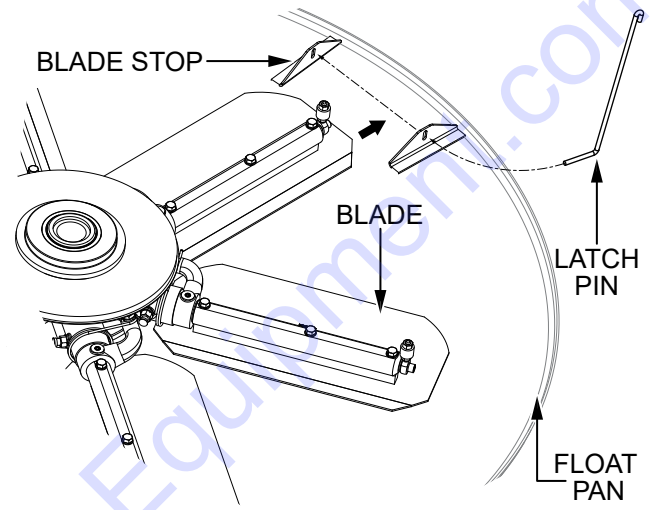

Figure 56. Float Pan Installation (Latch Pins)
1. Lift the trowel just enough to slide the float pan under the blades. Lower the trowel onto the pan with the blades between the blade stops (Figure 56).
2. Rotate the blades so that the blades fit between the blade stops (Figure 56). Be sure to rotate the blades in the same direction as during operation, or use the engine to rotate the blades into position.
3. Route the latch pins through the holes in the blade stops as shown in Figure 56.